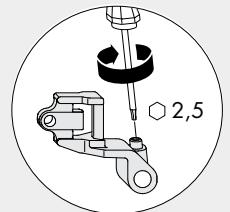

Figure 2
- B** Top hinge pin (8/14) must be secured in the stay hinge (11/17) (torque 2.5 ± 0.25 Nm) (see Figure 2).
- 2) Processing dimensions for window handle (1b) figures 2 and 3